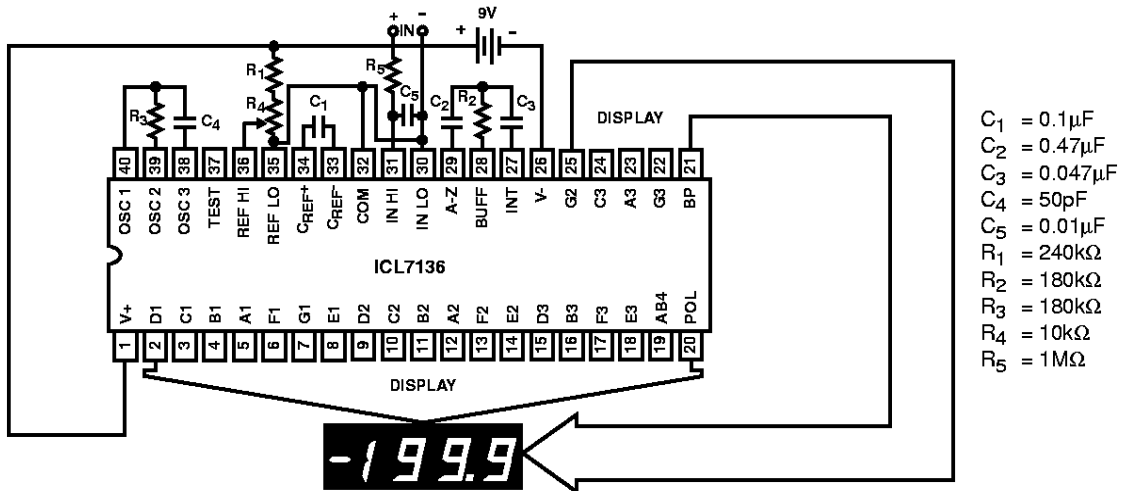
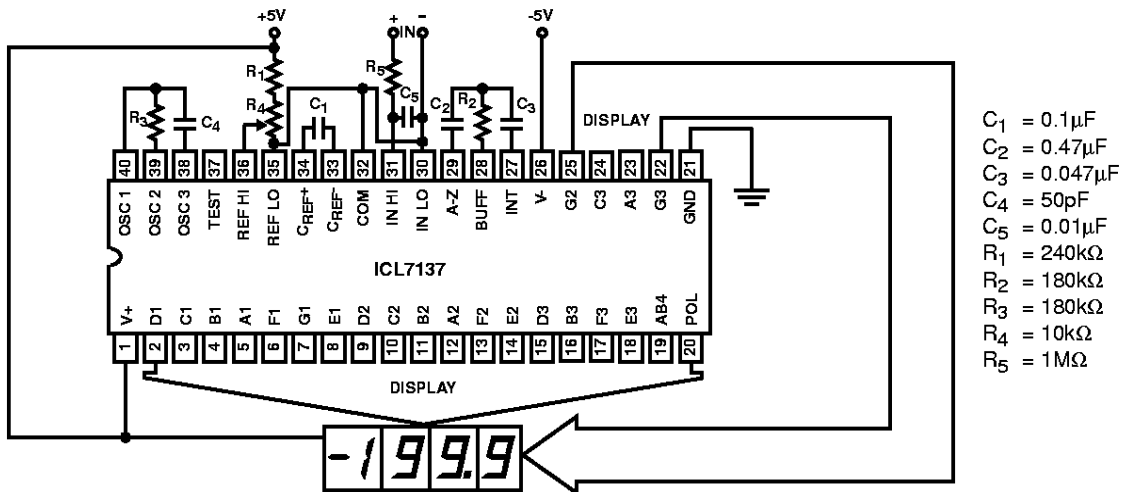

FIGURE 1. ICL7136 TEST CIRCUIT AND TYPICAL APPLICATION WITH LCD DISPLAY COMPONENTS SELECTED FOR 200mV FULL SCALE
FIGURE 2. ICL7137 TEST CIRCUIT AND TYPICAL APPLICATION WITH LED DISPLAY COMPONENTS SELECTED FOR 200mV FULL SCALE
3. Unless otherwise noted, specifications apply to both the ICL7136 and ICL7137 at $T_A = 25^\circ\text{C}$, $f_{\text{CLOCK}} = 48\text{kHz}$. ICL7136 is tested in the circuit of Figure 1. ICL7137 is tested in the circuit of Figure 2.